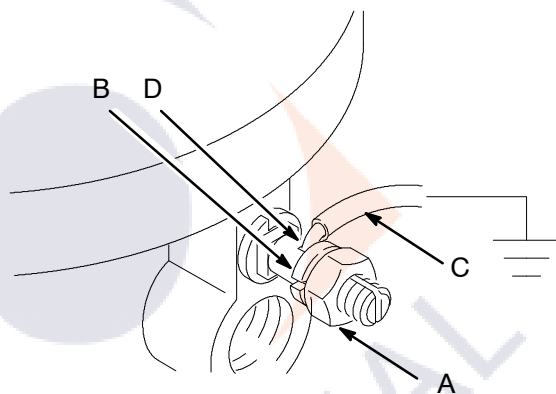

Fig. 1
- **Pump:** Use a ground wire and clamp as shown in Fig. 1. Loosen the grounding lug locknut (A) and washer (B). Insert one end of a 12 ga (1.5 mm2) minimum ground wire (C) into the slot in lug (D) and tighten the locknut securely. Connect the other end of the wire to a true earth ground.